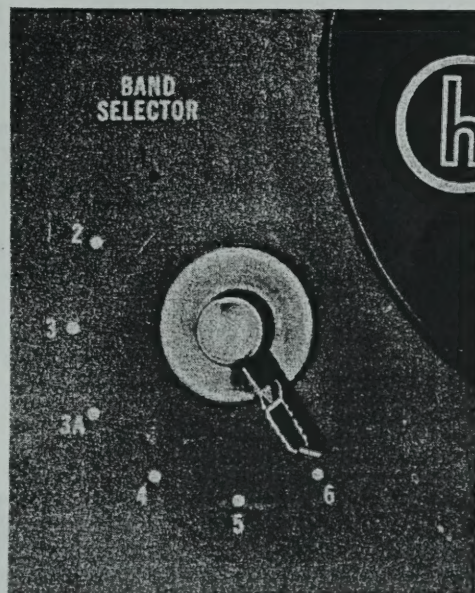

Figure 3. View showing Band Selector Switch
2. Turn the BAND SELECTOR knob left to the red dot. (See Fig. 3)